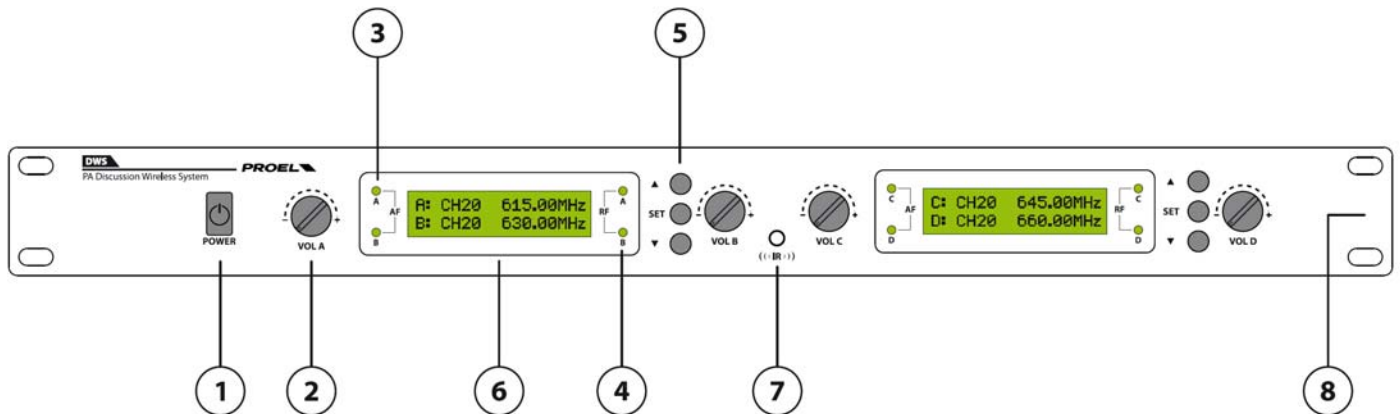
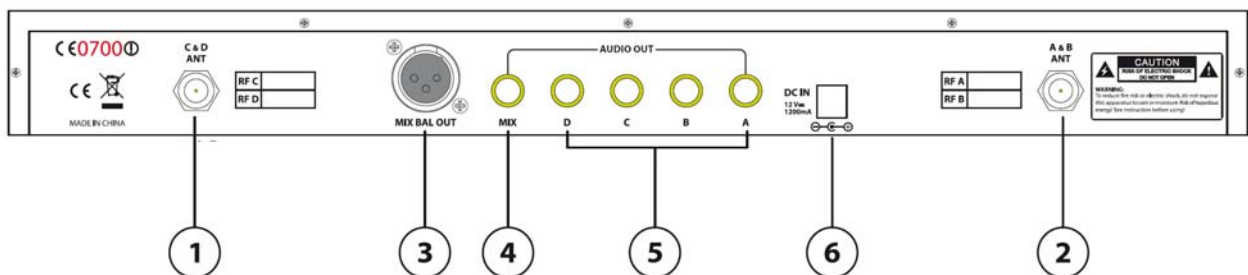

fig.1
fig.2
Connect to the input (fig.2, ref.6) AC/DC power supply. Prior connect to the main power supply 117-230VAC and switch On the receiver Unit through the POWER key (fig.1, ref.1).
Press 2 times SET key (fig.1, ref.5) and set channel mode (CHANNEL/TUNE) through Arrow on “down” (fig.1, ref.5) and press SET to confirm.
After having set CHANNEL or TUNE Mode press one time SET key, the operating frequency will start lighting up, shift with the arrow “down” and “Up” (fig.1, ref.5) and set the frequency you want to use. Select one stand amongst the four microphone stands operating in the same frequency range planned to be programmed reading the indications reported on the back rear of this stand (fig.3, ref.11) and switch on.
Position the stand to have the transmitter IR (fig.1, ref.7) and the receiver IR (fig.3, ref.5) are one front of the other and press the Arrow “UP”, on the display will appear the following frame
When the microphone stand is coupled, the respective RF Led (fig.1, ref.4) will switch on and on the stand display (fig.3, rif.7) the coupling frequency will appear. The stand of the Band A is programmed and ready to be used.
Position the stand in order to have IR transmitter (fig.1, ref.7) and IR receiver IR (fig.3, ref.5) are the front one of the other , press for 2 seconds Arrow key “UP” (fig.1, ref.5) . At this point on the display will appear the following frame
When the microphone stand will be coupled and the relevant Led RF (fig.1, ref.4) will switch on, the same frequency will appear on the microphone stand display.
After having pressed SET key (fig.1, ref.5) (the operating frequency will start lighting up), press contemporaneously SET and arrow “down” (fig.1, ref.5) to pass to band B.
Vice versa from band B: after having pressed one time SET key (fig.1, ref.5) (the operating frequency will start lighting up), press contemporaneously SET and Arrow “up” (fig.1, ref.5) to pass to Band A
Repeat the same operations as here above described in order to program Band A. Make sure that IR transmission process will start pressing one time Arrow Key “down” (fig.1, ref.5) and the automatic programming process scan will start pressing for 2 seconds Arrow key “down” (fig.1, ref.5)